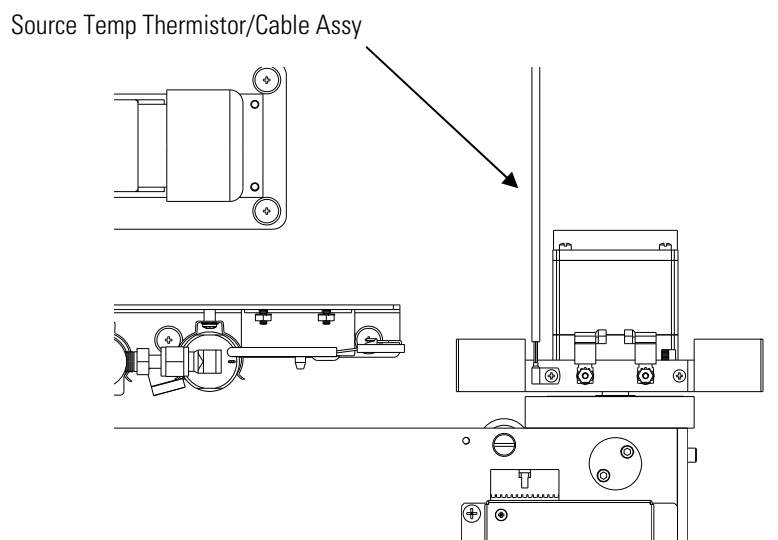

Figure 7–19. Replacing the Source Housing Thermistor Cable Assembly
Use the following procedure to replace the source temperature thermistor/cable assembly (Figure 7–19).
Equipment Damage Some internal components can be damaged by small amounts of static electricity. A properly grounded antistatic wrist strap must be worn while handling any internal component (Figure 7–1). If an antistatic wrist strap is not available, be sure to touch the instrument chassis before touching any internal components. When the instrument is unplugged, the chassis is not at earth ground. ▲
2. Tape the thermometer to the thermistor, which is plugged into the measurement interface board (Figure 7–19).